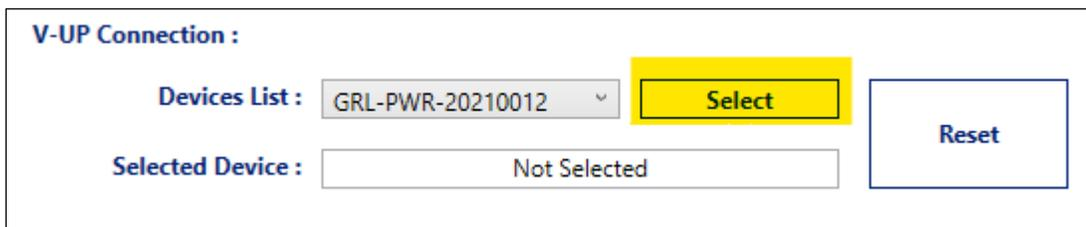

Figure 16. Select Device
3. Select the Device by clicking on the **Select** button as shown in Figure 16 below.